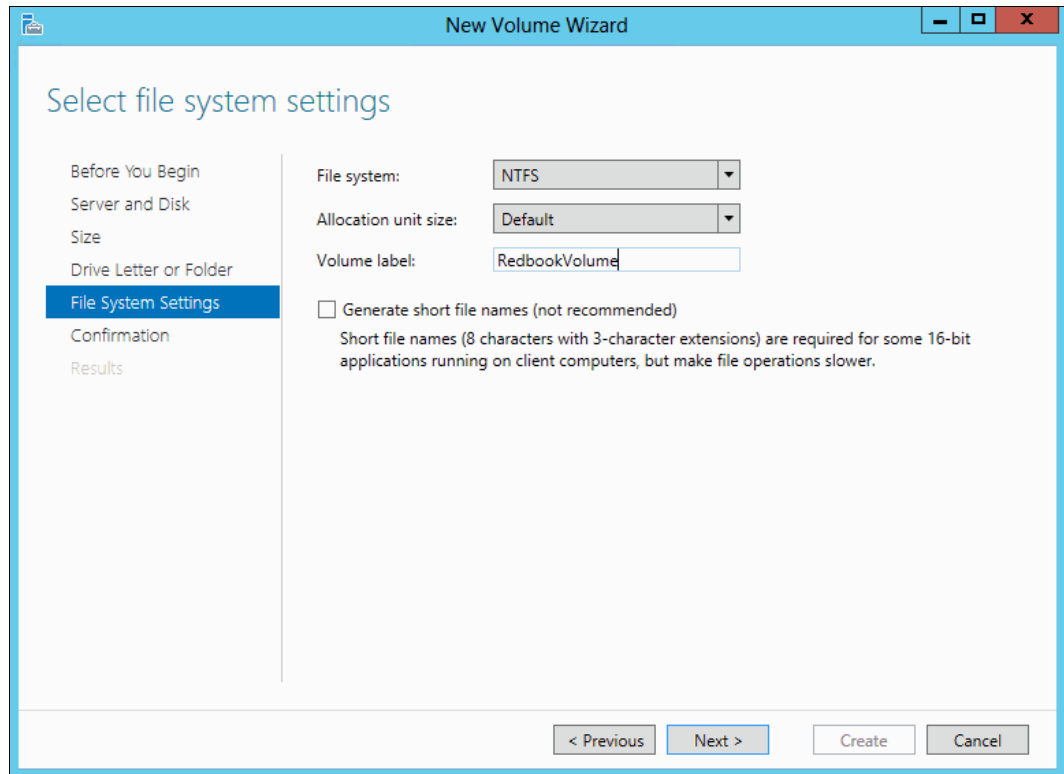

Figure 5-41 Configuring File System Settings
6. Choose a file system type, unit size, and name for the new volume, as shown in Figure 5-41. Click **Next** to continue.